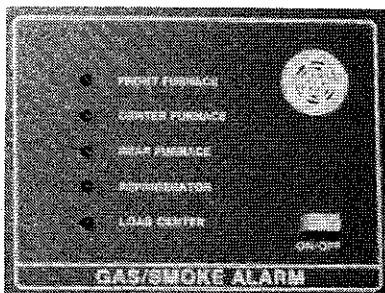

Figure 3-17. Gas/Smoke Alarm
The gas/smoke alarm, figure 3-17, is a gas leak detector designed to sense dangerous concentrations of LP gas or carbon monoxide within the coach. There are four (4) sensors mounted at floor level (LP gas is heavier than air) for the three furnaces and the refrigerator. One sensor is located above the 120 volt ac distribution panel (load center) to monitor carbon monoxide. Carbon monoxide, of course, is the most deadly of the